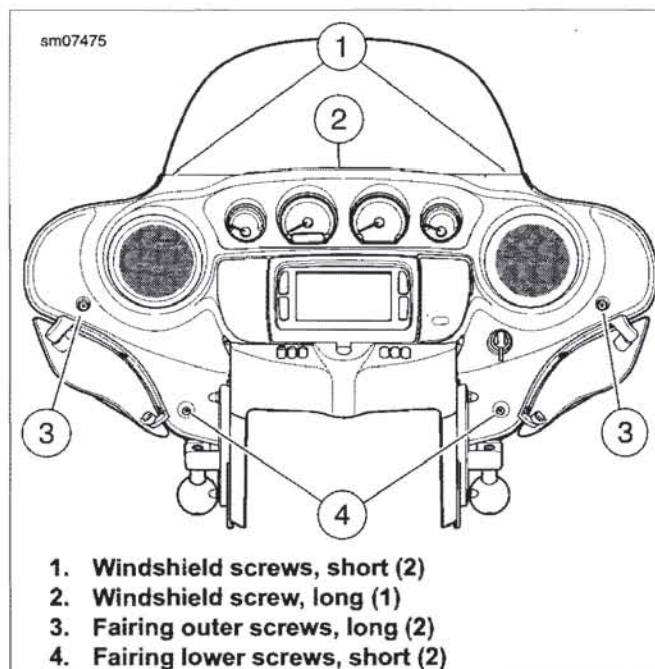

Figure 2-150. Outer Fairing Screws
3. See Figure 2-150. Remove three screws (1, 2) securing the windshield.
4. Loosen two screws (3).
6. Remove two screws (3).
7. Remove two screws (4).
- See Figure 2-150. Screws (4) are similar to the center screw that secures the windshield. Use care to avoid mixing them during installation. Screws (4) have a smooth shank, captive washer and unthreaded tip.
3. See Figure 2-150. Start two long screws (3).
4. Start two short screws (4).